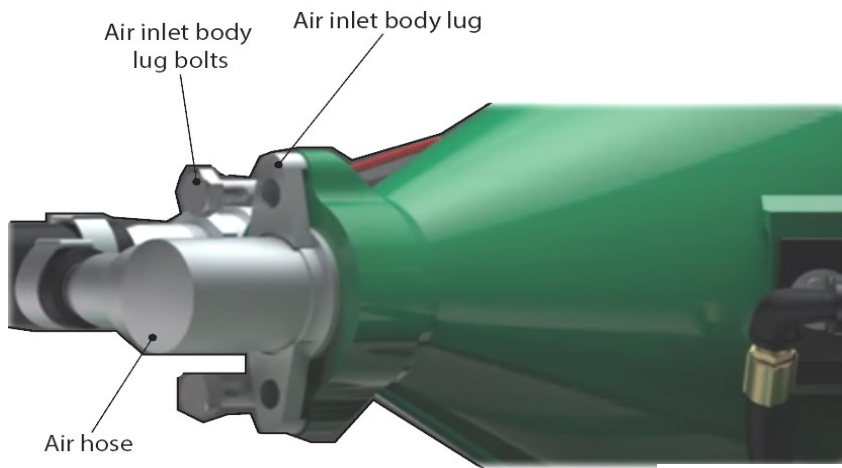

Figure 7. Underside of the blast pot
When leaving a blast pot idle for long periods of time, be sure to completely blast the water and media out of the tank or follow the storage procedure below. See Figure 7 and 8 in “Flushing the Blast Pot” on page 25 of this manual for a visual representation of the procedure below.
2. Remove both air inlet body lugs and air inlet body lug bolts from the underside of the blast pot. See Figure 7 on page 25.
2. Remove both air inlet body lugs and air inlet body lug bolts from the underside of the blast pot. See Figure 7 below.